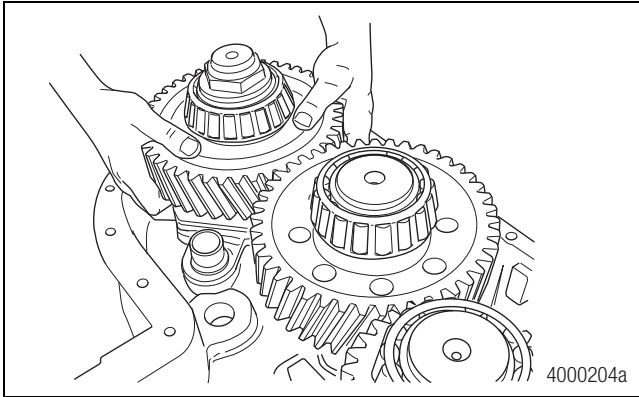
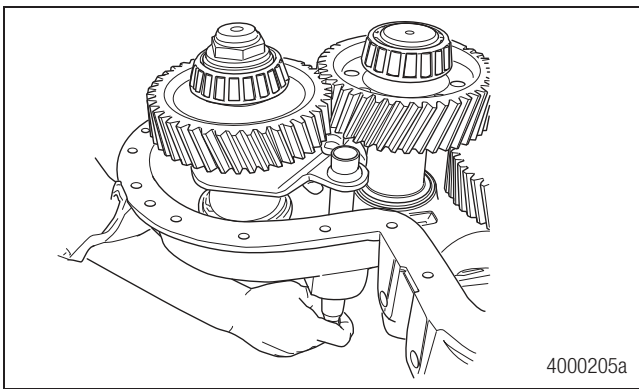

Figure 7.16
Figure 7.17
6. Install the front output shaft, shift fork, and clutch collar in the front case. The shift fork will slide over the push rod. Figure 7.16 and Figure 7.17.